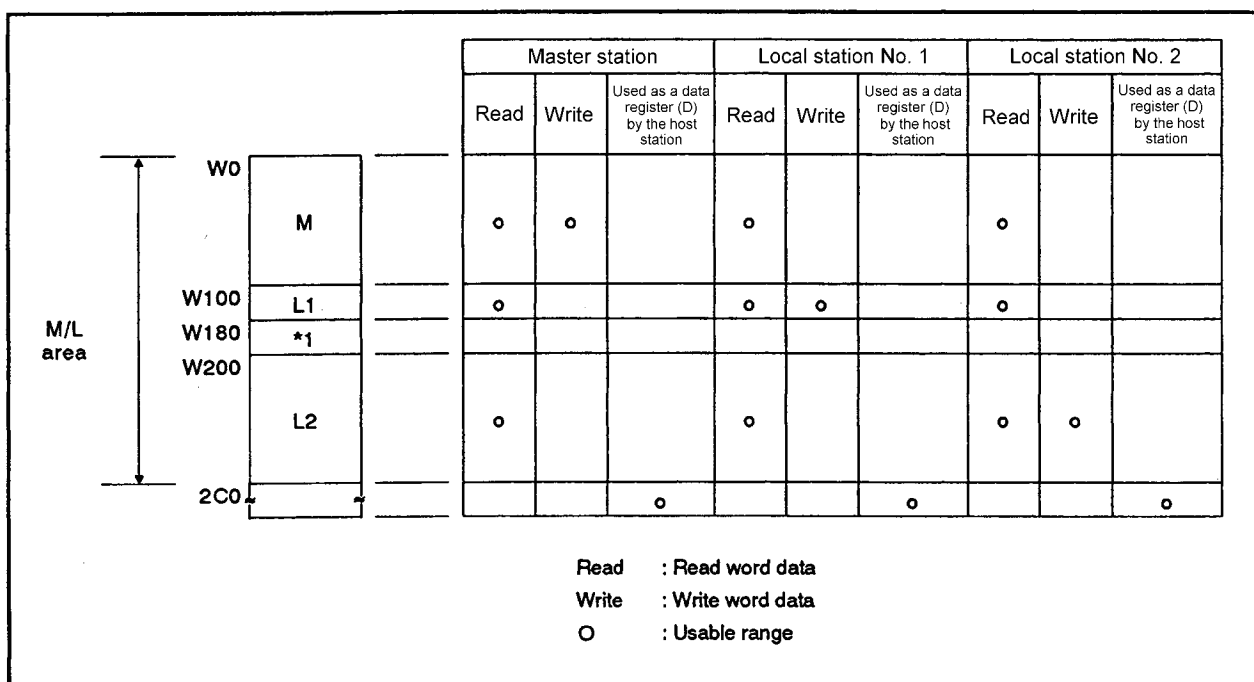

Fig 7.10 Link register (W) assignment example
Fig 7.10 shows the case when assigning 256 points to the master station, 128 points to local station No.1, 196 points to local station No.2, and 128 points empty area between local station No.1 and local station No.2.
(b) The empty area marked with *1 in the M/L area in Fig 7.10 cannot be used as a substitute for data register (D) in the master station and all local stations.